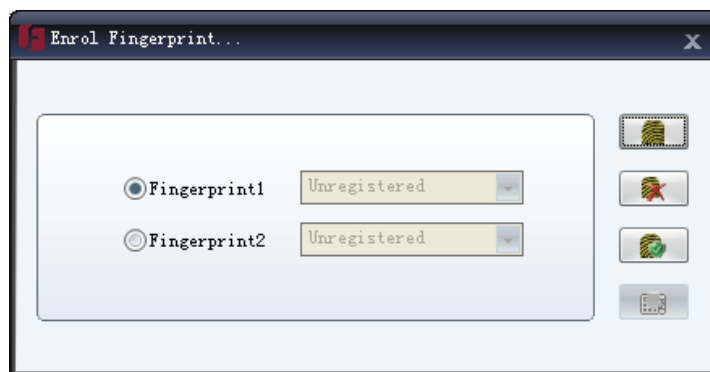

Fig. 4-8 Acquire Card Number from a Card Reader
- c) Press the icon for desktop card reader , the following dialog box will pop up (Fig. 4-8).